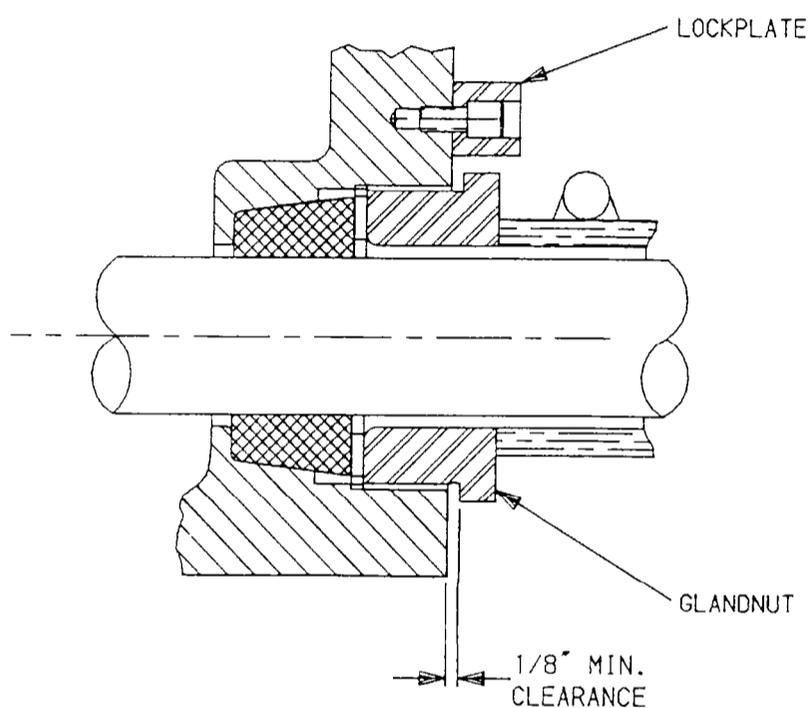
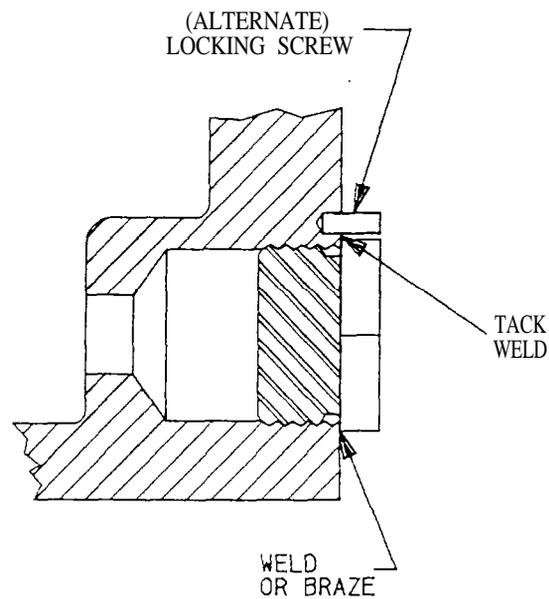

FIGURE 2
FIGURE 3
- (WEEKLY) 1. () All Lead en trances (packing glands) are assembled so that the cable jacket penetrates into the enclosure and when tightened, a 1/8" minimum clearance remains between the packing nut and stuffing box (Figure 2).
- (WEEKLY) 2. () All packing nuts and stuffing boxes are secured from Loosening by a Locking screw, wire, or other means (Figure 2). All unused lead entrances ore closed with metal plugs which ore secured in place by spot welding, brazing, or equivalent (Figure 3).
- (WEEKLY) 3. () Head light glands are sealed and ASSEMBLED SO THAT THE CABLE JACKET PENETRATES INTO THE ENCLOSURE AND WHEN TIGHTENED, A 1/8 INCH MINIMUM CLEARANCE REMAINS BETWEEN PACKING NUT AND THE STUFFING BOX. (Figure 2)
- (WEEKLY) 4. () All unused Lead entrances are closed with metal plugs which are secured in place by spot welding, brazing, or equivalent (Figure 3).
- (WEEKLY) 2. () "Alternator Housing Glands" are sealed and ASSEMBLED SO THAT THE CABLE JACKET PENETRATES INTO THE ENCLOSURE AND WHEN TIGHTENED, A 1/8 INCH MINIMUM CLEARANCE REMAINS BETWEEN PACKING NUT AND THE STUFFING BOX. (Figure 2)